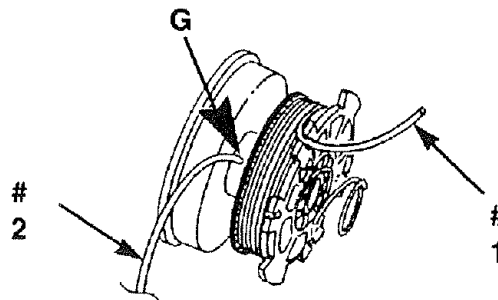
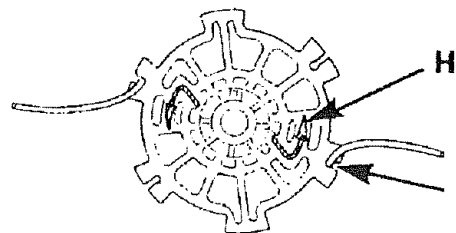

Fig. 3
Fig. 4
3. Insert one 11 foot long string into anchor hole (G) in spool as shown (see Fig. 3). Wind string #1, in upper space counterclockwise as shown by the arrows on the flange (H) (see Fig. 4) and place string end in slot (I) on upper spool flange (see Fig. 4). Extend string 6 inches (15cm) beyond slot. After winding, there should be at least 1/4" (6mm) between the wound string and the outside edge of the spool. **DO NOT OVERFILL.**